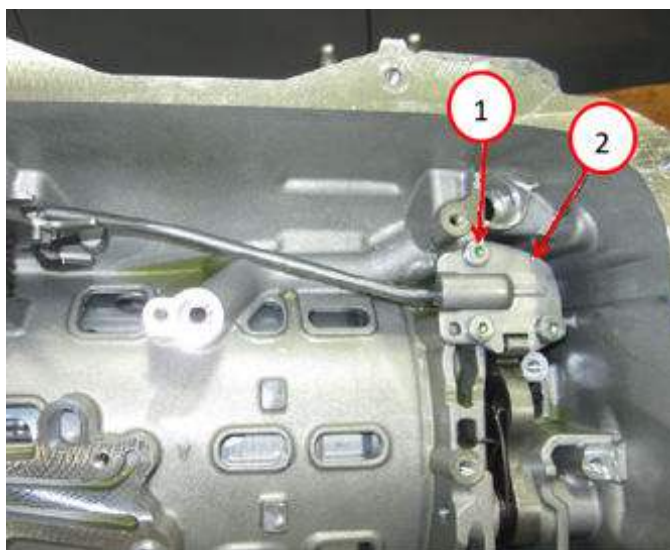

Fig. 17
27. Remove the park pawl lock rod guide plate bolts and remove the plate Fig. 17.